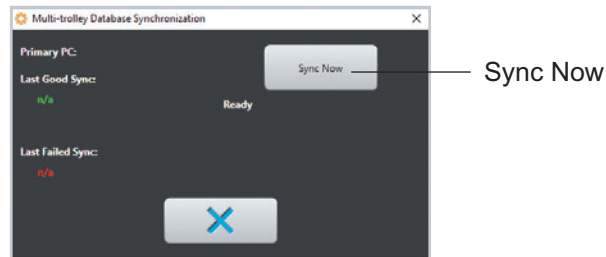

Figure 10-2: Multi-Trolley Database Synchronization Window
3. The window displays how many patient records need to be synced. Press the Sync Now button. See Figure 10-2.